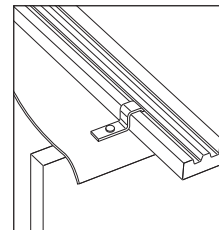

Fig. 12 – Eaves clip
- 5 Fix eaves course tiles with nail or purpose-made eaves clip nailed to top of fascia board (Fig. 12).